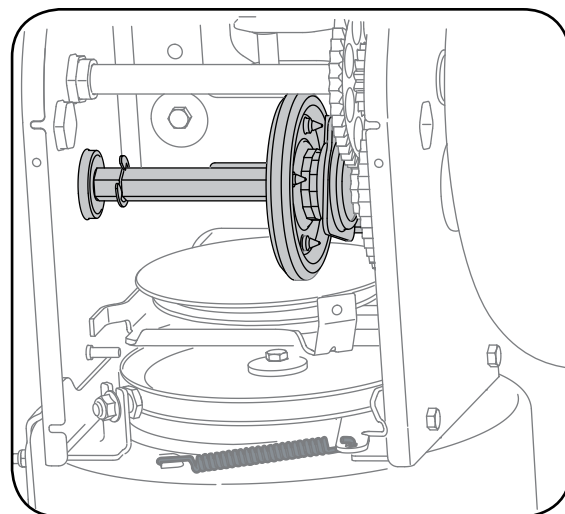

Figure 8
2. Apply a light coating of an all-weather multi-purpose grease to the hex shaft. See Figure 8.